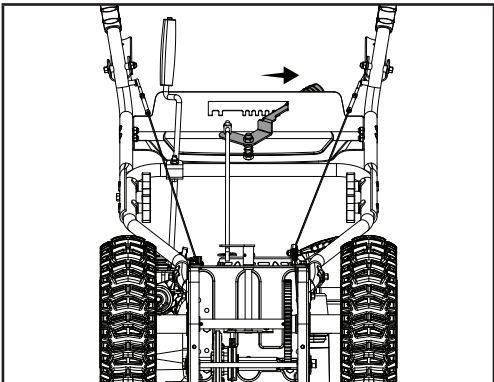
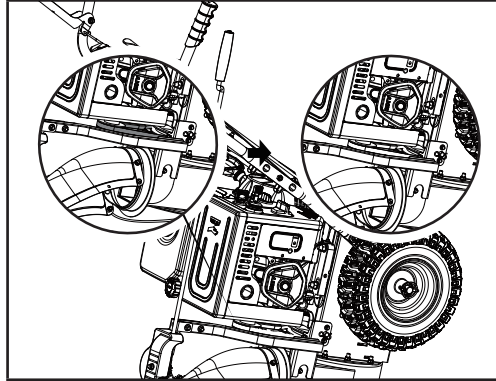

Figure 25A
Figure 25B
- Slide the speed adjusting handle to the right (Fig. 25A) and remove the loose belt by cutting it or any remaining belt pieces if the belt has already broken (Fig. 25B). If cutting the belt be careful of the tensioning pulley and arm as they are spring loaded and could cause injury when the belt is cut.